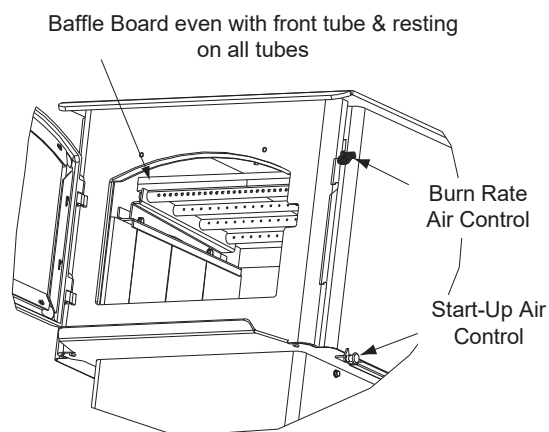

Figure 23.4
4. Re-install the baffle pieces one piece at a time. Be sure the baffle boards are even with the front manifold tube and is resting on all tubes (**Figure 23.4**).